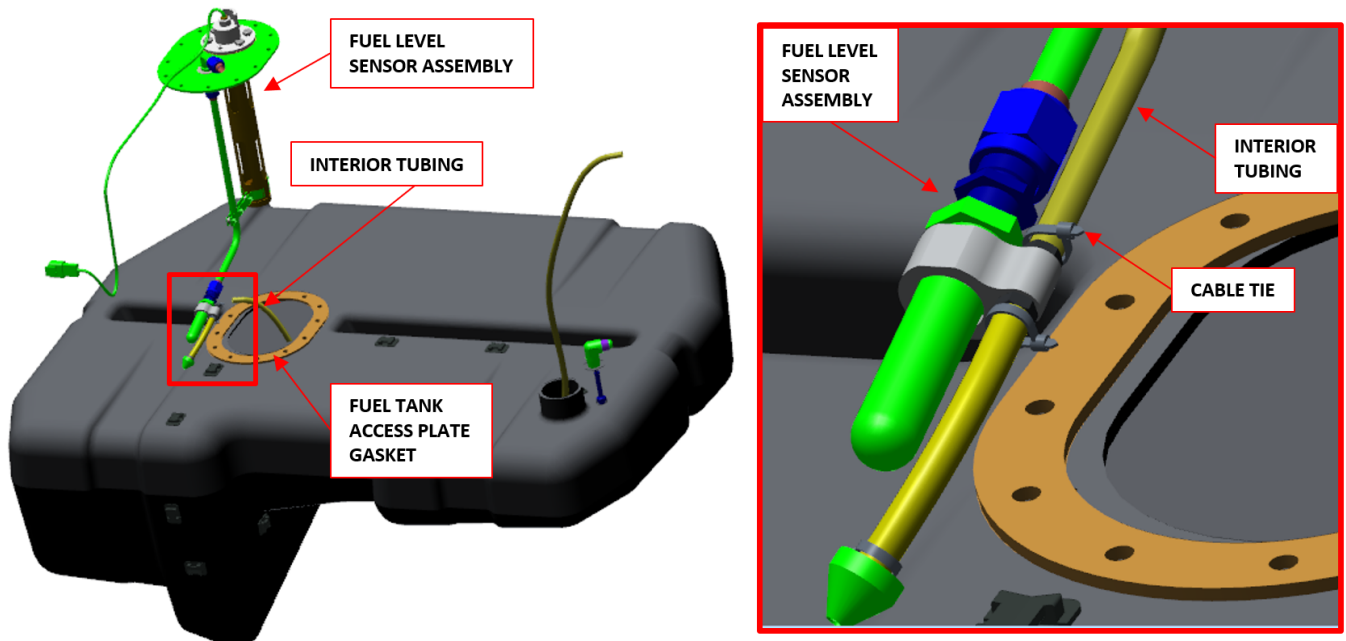

Figure 8 – Fuel level sensor assembly.
4. Remove fuel level sensor assembly, Figure 8:
2. Install fuel level sensor assembly into fuel tank, Figure 8 & 13:
- c. Pull end of interior tubing from inside the fuel tank and secure to fuel level sensor assembly using CABLE-TIE, NYLON 6-6, 18LB (see Figure 8).